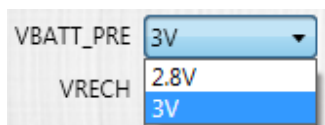

Figure 12: V_{BATT_PRE} Setting
10. Set pre-charge to constant current charge threshold voltage (see Figure 12). Its options are 2.8V or 3.0V, and the default value is 3.0V.